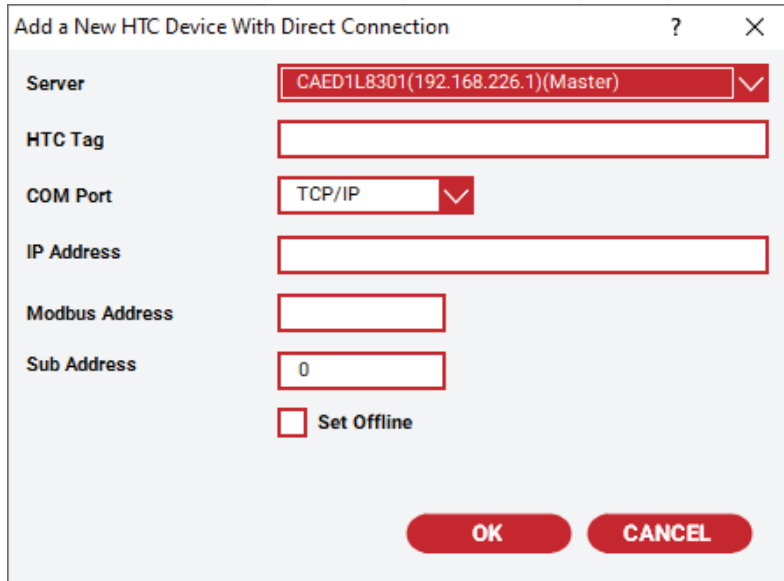
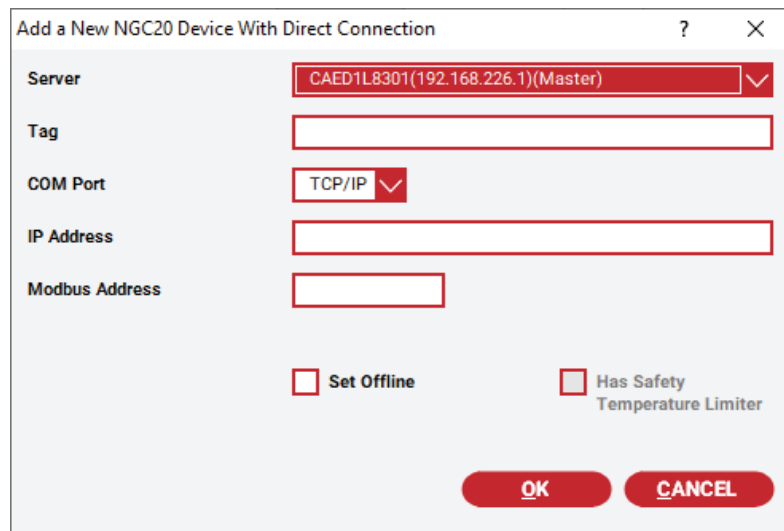

Figure 3.15 Add a New HTC Direct Window
Figure 3.16 Add a New NGC-20 Device with Direct Connection Window
3. Select **Add HTC Direct** or **Add NGC-20 Direct**. The appropriate configuration window is displayed (refer to Figure 3-15 Add a new HTC Direct Window, or Figure 3-16 Add a New NGC-20 Device with Direct Connection Window).